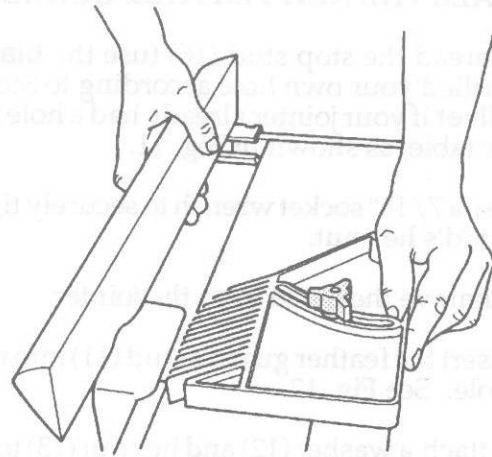

Fig. 17
27. Re-install the fence while holding the feather guard in place, as illustrated in Fig. 17. Guide the feather guard back against the fence.